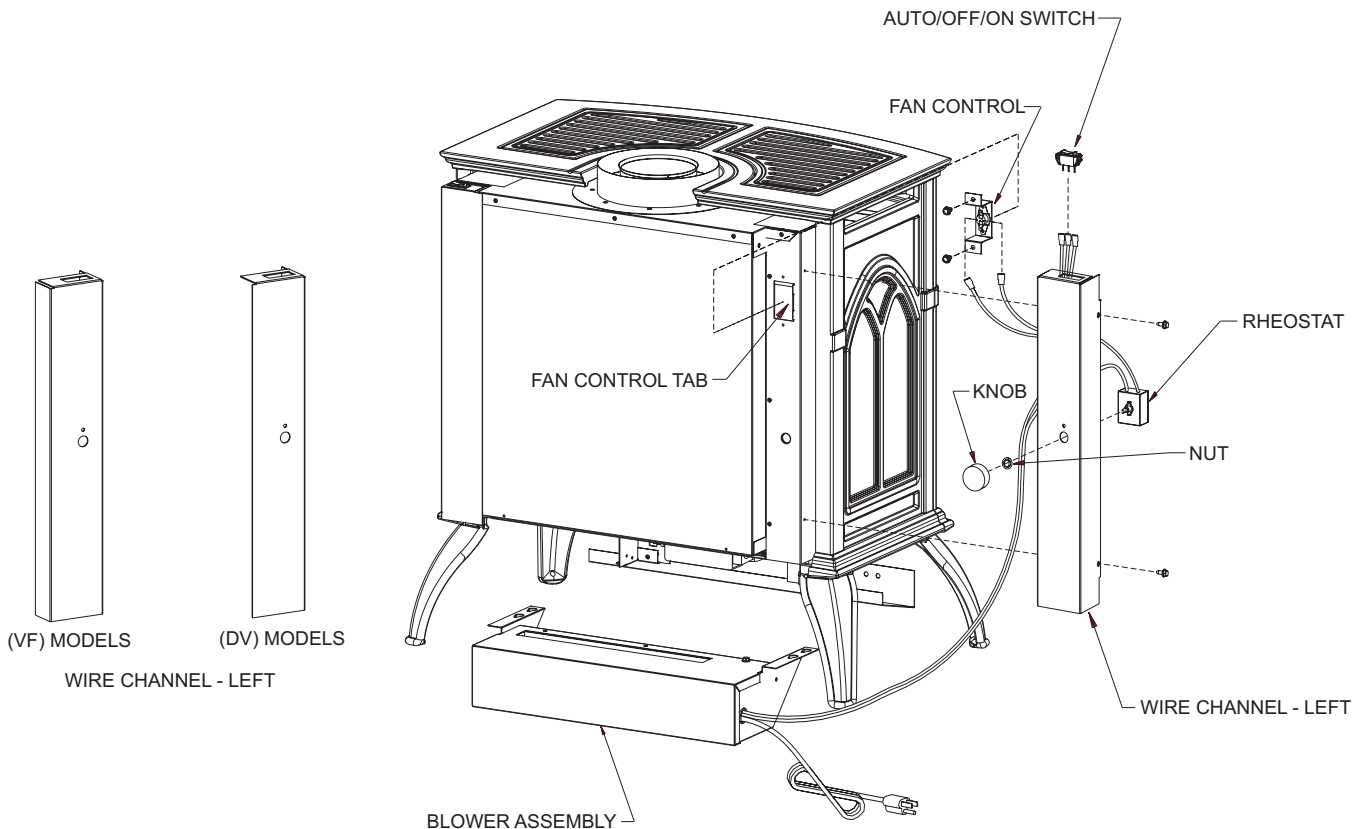

Figure 23
1. Loosen, but do not remove, four (4) hex-head screws located on the exterior, bottom of the appliance.
2. Position the blower assembly at the rear of the appliance. The blower assembly has four (4) keyholes for attachment to the exterior, bottom of the appliance.
3. Place the large diameter holes in the keyholes over and behind the four (4) hex-head screws that were loosened in Step 1. Push inward on the blower assembly to lock the keyholes into position behind the screws. Tighten four (4) hex-head screws to secure blower assembly to exterior, bottom of the appliance.
4. Remove wire channel-left from appliance by removing (2) 10 x 1/2" screws on left side of the appliance. **NOTICE:** Some units require a new wire channel. If Rheostat mounting holes are missing from part removed from unit, discard wire channel removed from unit and continue installation with appropriate wire channel shipped with blower. See Figure 23.
13. Bend the fan control tab, located on the left side of the back of the unit, inward toward the unit. See Figure 23. Be sure tab is bent at least 90 degrees to allow fan control bracket to slide into slot.
14. Attach fan control with bracket onto rear cover with two (2) 10 x 1/2" screws provided in hardware package.
16. Attach wire channel to channel divider with two (2) 10 x 1/2" screws from Step 4.